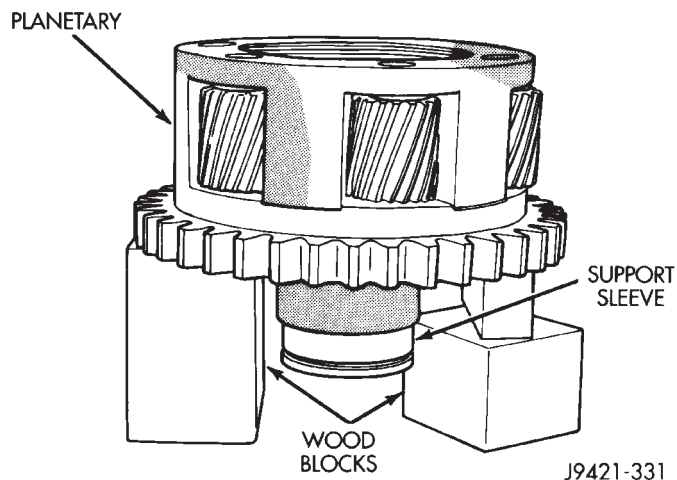

Fig. 61 Support Sleeve Installation
(3) Support carrier with wood blocks under PTO gear (Fig. 61).
(4) Install support sleeve in planetary carrier. Be sure sleeve is seated.